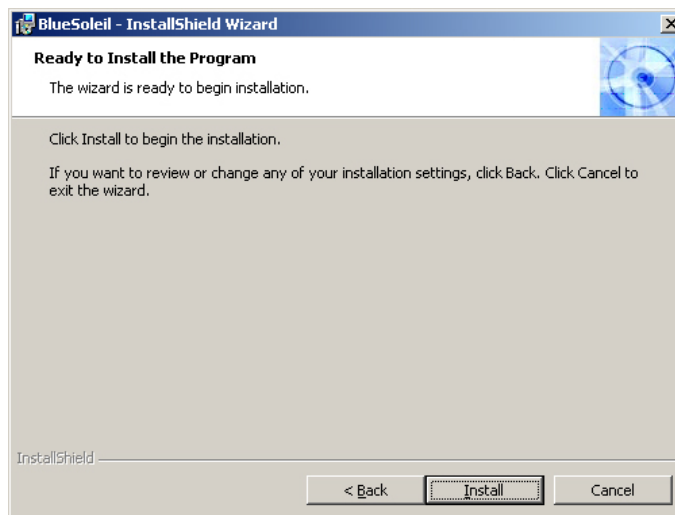

Figure 7-35: Ready to Install the Program
Step 8: Click **NEXT** and the Installshield Wizard is ready to install the program (**Figure 7-35**).